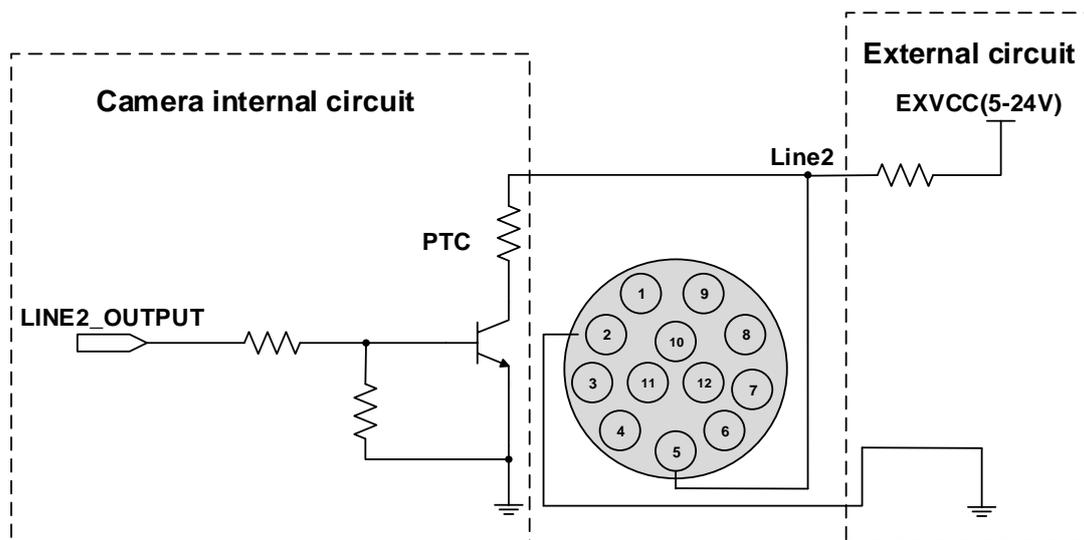

Figure 7-14 Internal equivalent circuit of camera when Line2 is configured as output
- When Line2 is configured as output, the internal equivalent circuit of camera is shown in Figure 7-14, taking Line2 as an example